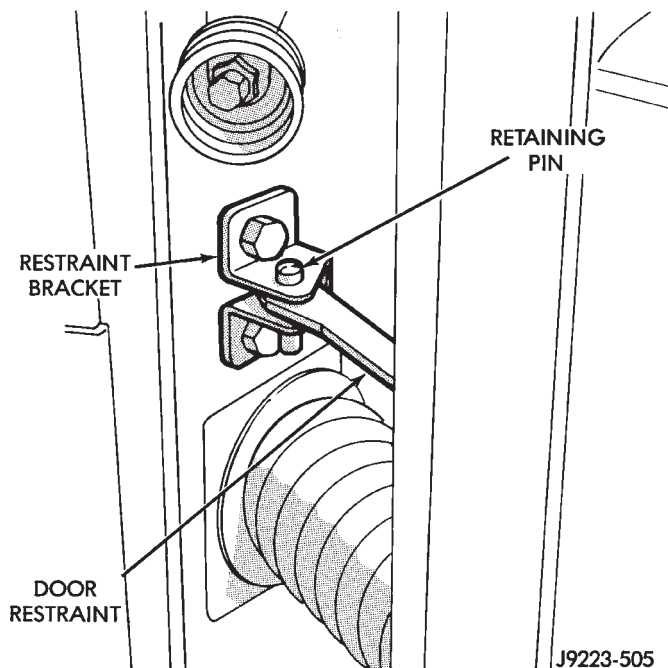

Fig. 86 Door Restraint (Check) Retaining Pin
- (1) Remove the door restraint (check) retaining pin (Fig. 86) with a punch.
- (2) Front door: open the door wide for access and remove the door hinge pin and bushing with a punch.